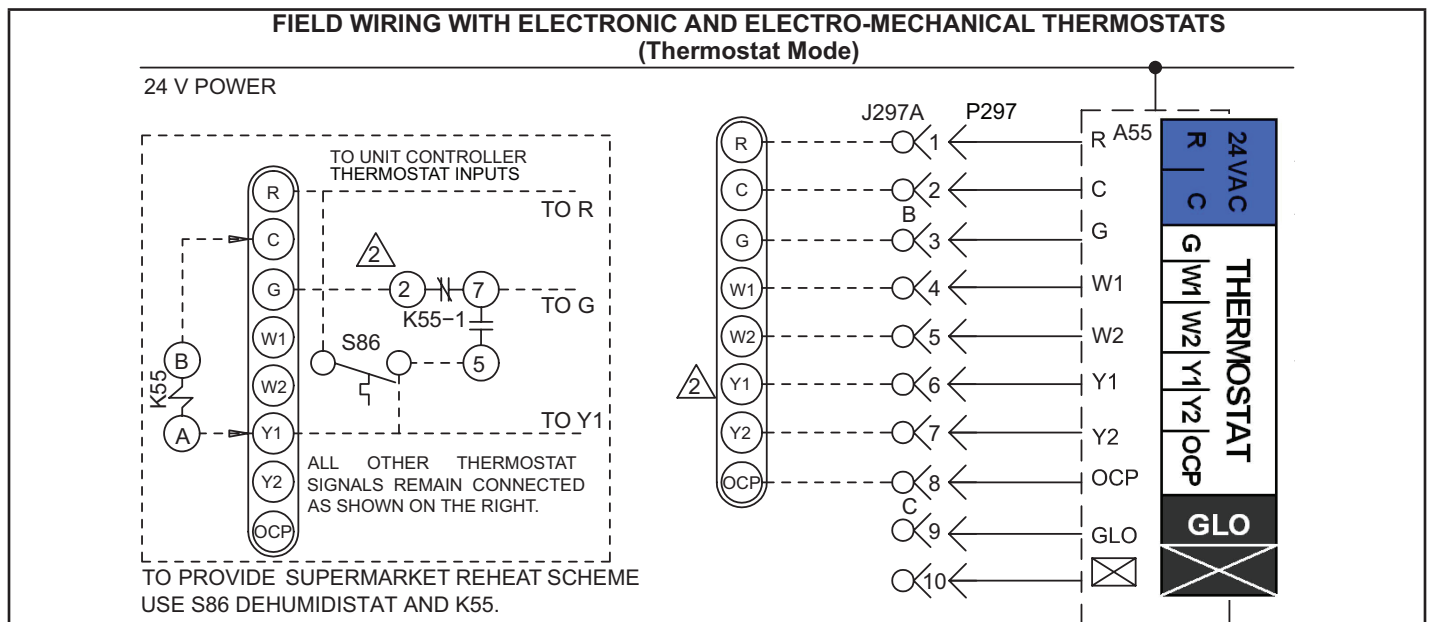

FIGURE 11
- 4 - Wire as shown in FIGURE 11 for electro-mechanical and electronic thermostats. If using other temperature control devices or energy management systems see instructions and wiring diagram provided by manufacturer.